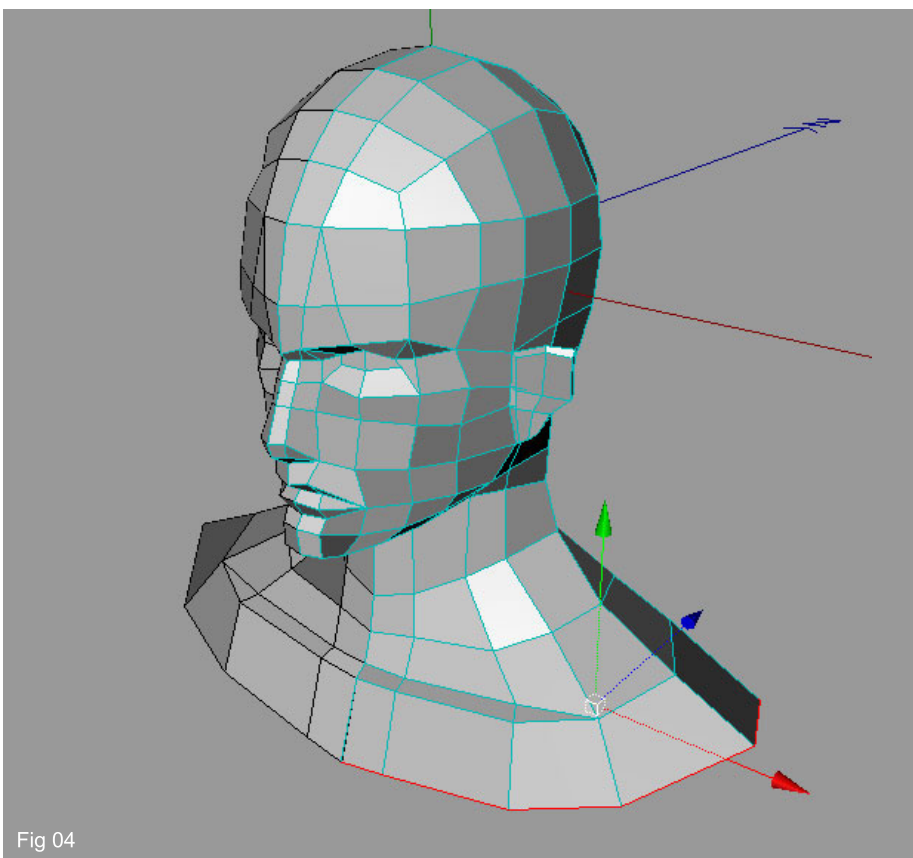

Fig 04
4. Now once again select this bottom row of edges and extrude them and re-arrange the new vertexes to form a better shape. (Fig04). Remember that whenever you add more detail you should move the new verts into suitable positions before adding any new edges.